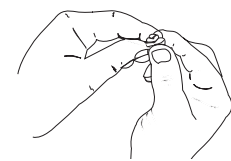

Fig. 28
5. Squeeze the filter to spread and remove excess oil (Fig. 28).